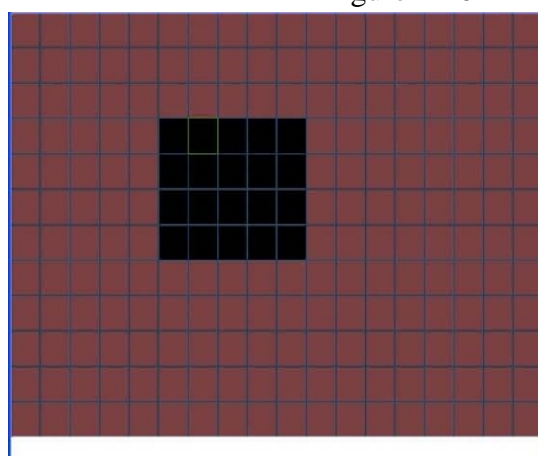

Figure 4-17
- ⌘ Region: Click select button, the interface is shown as in Figure 4-17 Here you can set motion detection zone. There are 396(PAL)/330(NTSC) small zones. The green zone is current cursor position. Grey zone is the motion detection zone. Black zone is the disarmed zone. You can click Fn button to switch between the arm mode and disarm mode. In arm mode, you can click the direction buttons to move the green rectangle to set the motion detection zone. After you completed the setup, please click ENTER button to exit current setup. Do remember click save button to save current setup. If you click ESC button to exit the region setup interface system will not save your zone setup.
In Figure 4-17, you can left click mouse and then drag it to set a region for motion detection.